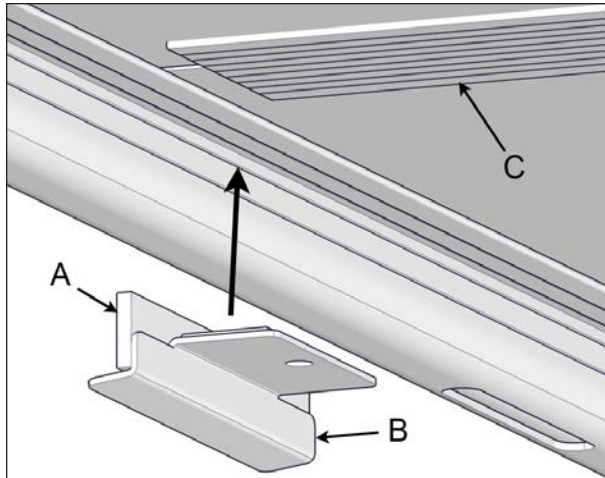

FIGURE 98: WIPER LOCATION
3. Under the cover, locate an I-beam and orientate the wide flap of the wiper outwards of the cover see Figure 98.